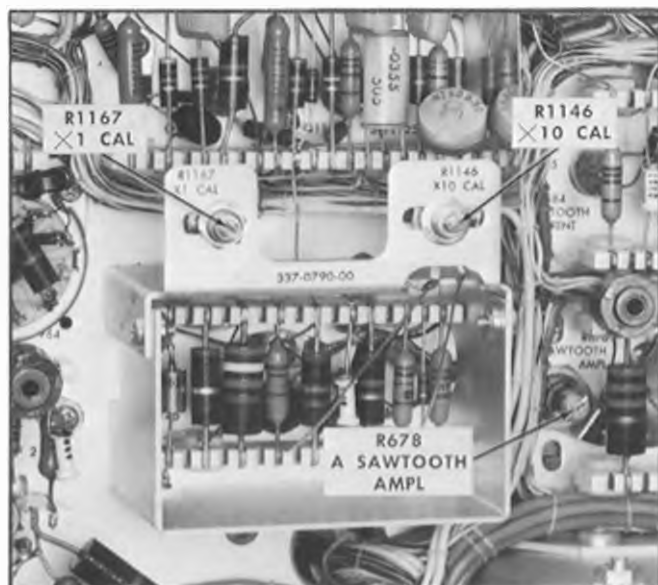

Fig. 6-33. Adjustment location for A sweep basic timing and sawtooth amplitude.
h. Adjust R1146 (see Fig. 6-33) for one 100-microsecond marker/cm.
k. Adjust R1167 for one 1-millisecond marker/cm. See Fig. 6-33; R1167 is located adjacent to the  $\times 10$  CAL control R1146.
c. Adjust R678 (see Fig. 6-33) so that the trace ends as the 22nd marker becomes visible. The sweep length is 10.5 cm.